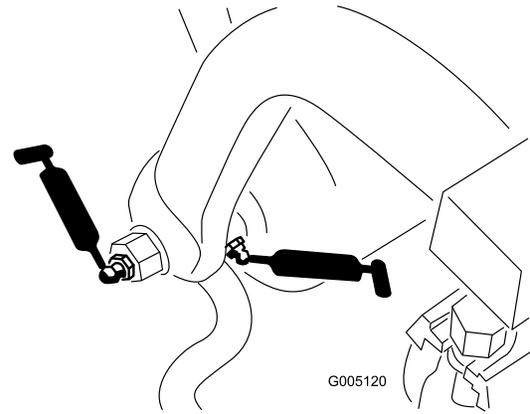

Figure 32
- Pull-frame shaft and roller (12) (Figure 32)